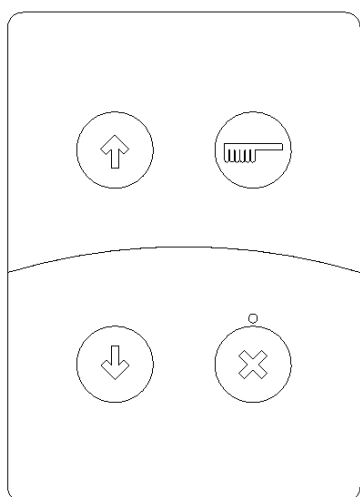

Figure 8-1
Numbers refer to figure 8-1
By pushing the cleaning button the knife crown will raise automatically, this is button number 2; see section 8.2, figure 8.1
- Retract the knives by pushing the “lower button”; see section 8.2, figure 8.1